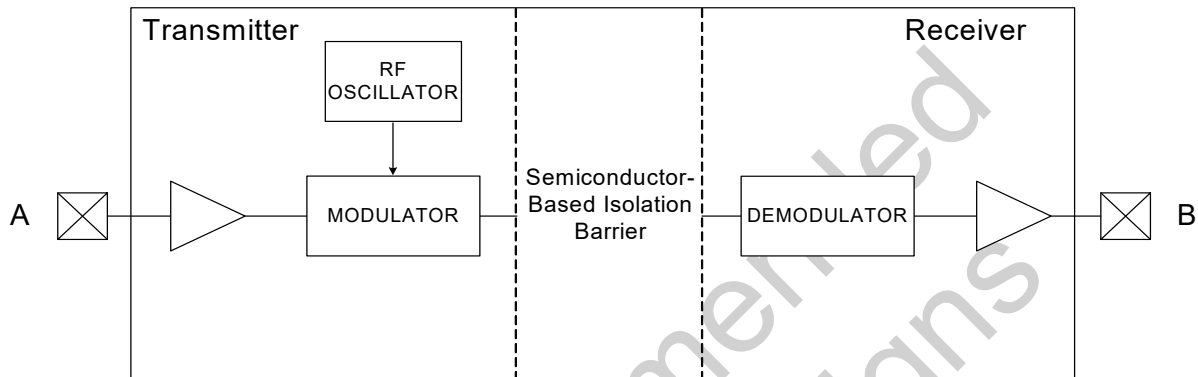

**Figure 2. (NB SOIC-16) Thermal Derating Curve, Dependence of Safety Limiting Values with Case Temperature per DIN EN 60747-5-2**
- Maximum value allowed in the event of a failure; also see the thermal derating curve in Figure 2.